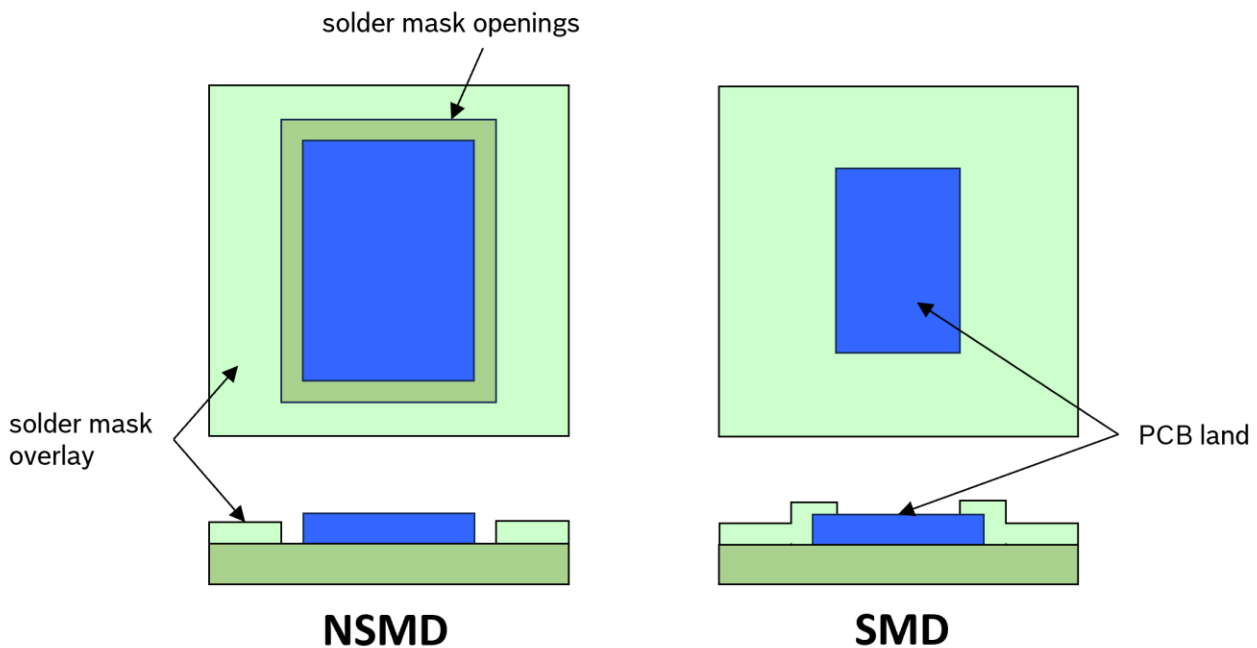

Figure 14: NSMD and SMD
- For the solder mask design of each pin, it is recommended to use Non-Solder Mask Defined (NSMD) pads. NSMD and SMD (Solder Mask Defined) are illustrated in Figure 14.